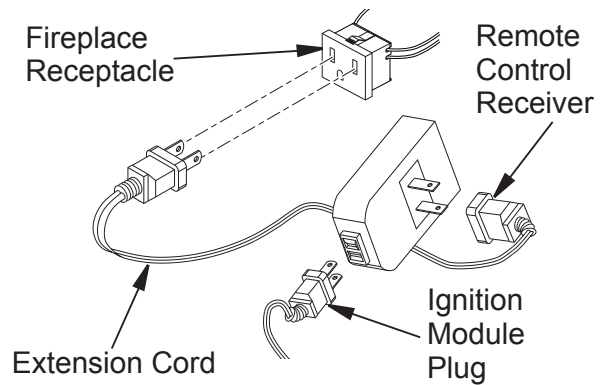

Figure 15 - Installing WRC Remote Receiver
2. The WRC model receiver does not require a battery. Receiver can be installed by first plugging short extension cord into fireplace receptacle. Then plug receiver unit into extension cord. Finally plug ignition module plug into receiver unit (see Figure 15).